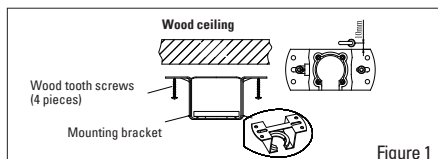

Figure 1
1. Fix the hanger tightly on the wooden ceiling beam with a wood tooth screw drill :(as shown in Figure 1)